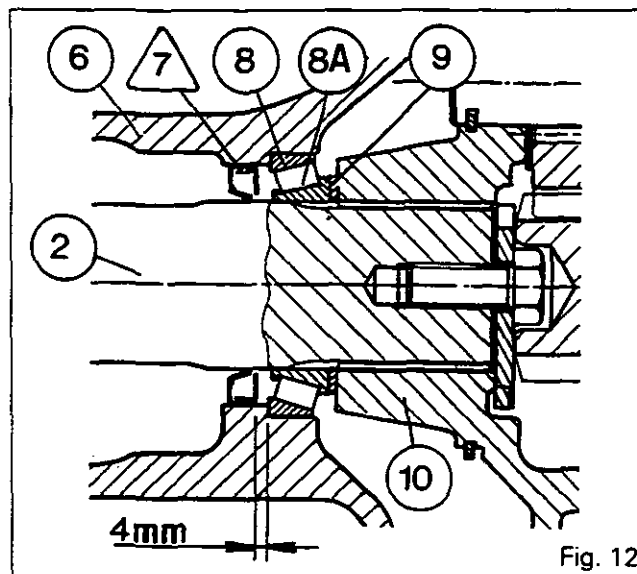
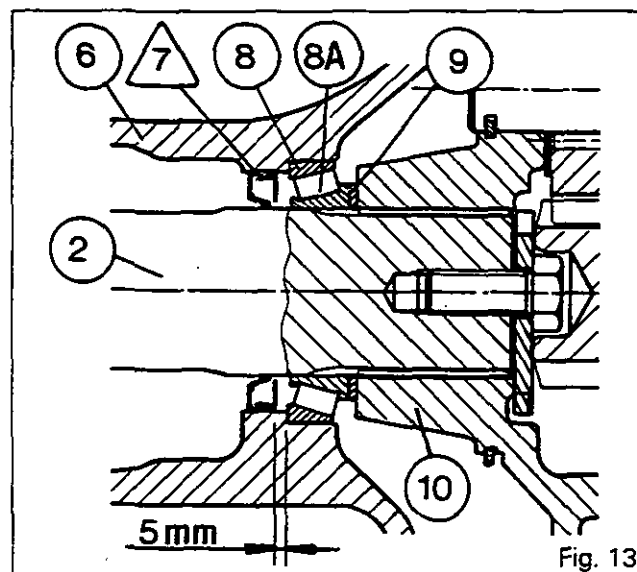
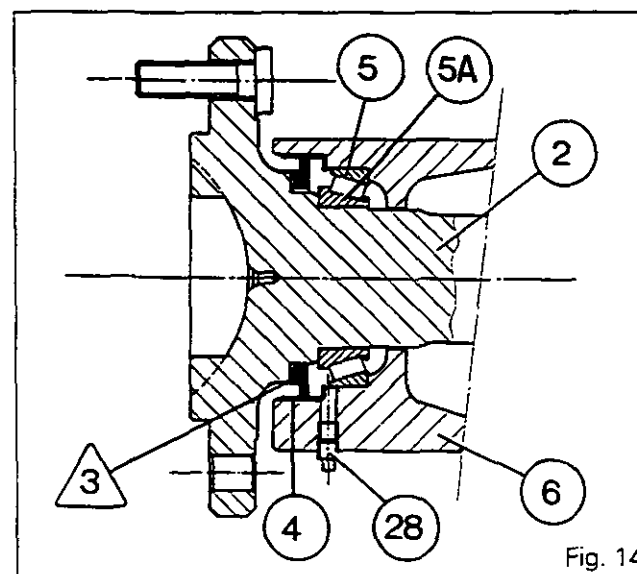

Fig. 12
Fig. 13
Fig. 14
- the spur washer (9) (Fig. 12)
4. Withdraw the shaft (2) from the trumpet housing.
- the cup (5)
- the housing (4) for seal /3/
- the cup (8)
a) Without replacing the shaft (2)
So that the seal lip is not in the same place on the shaft, press on the seal until it is 4 mm from the shoulder of the cup (8) (Fig.12).
b) Replacing the shaft (2)
Position the seal 5 mm from the shoulder of the cup (8) (Fig.13).
12. Lubricate the cups (8) and (5) and press them fully on to the shoulder.
13. Press the housing (4) fully on to the shoulder (Fig.14).
Note : Ensure that the seal is fitted the correct way round (Fig.14).
19. Refit the cone (8A), the washer (9) and the planetary carrier (10).
21. Replace the plug (28) by a grease nipple. Partly fill the cavity at the end of the trumpet housing between the cone (5A) and the seal /3\ with BP Agricharge or an equivalent grease. Remove the grease nipple and refit the plug (Fig.14).